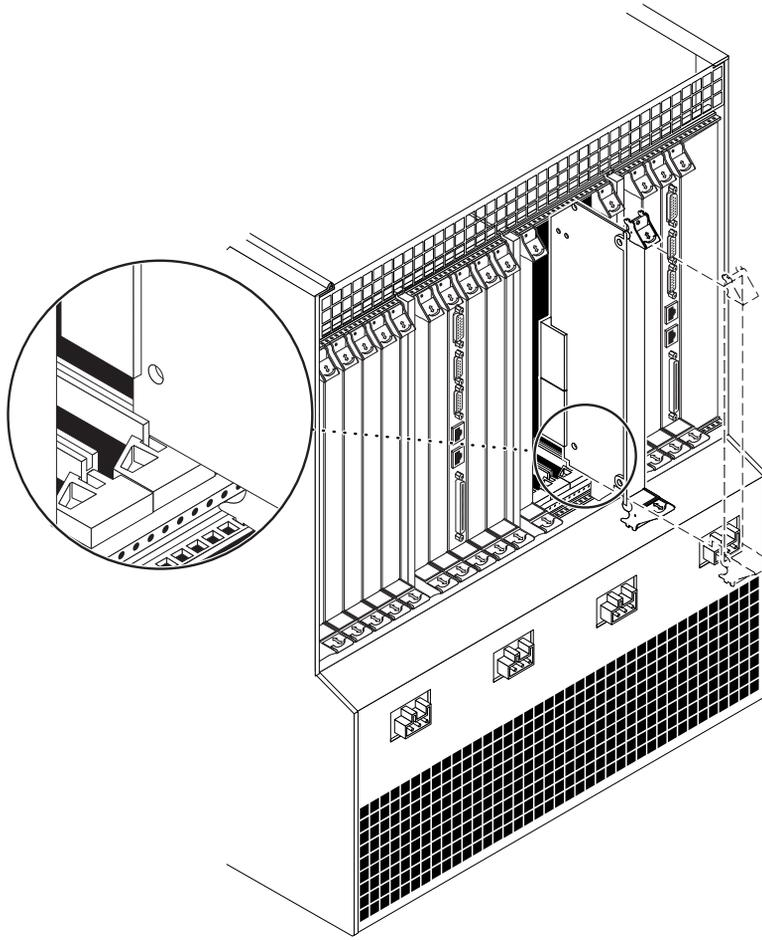

FIGURE 5-11 Aligning the Card With the Rear Card Cage Cutouts
6. **Keeping the card vertical, slide the rear transition card in between the two guides into the slot (FIGURE 5-11).**